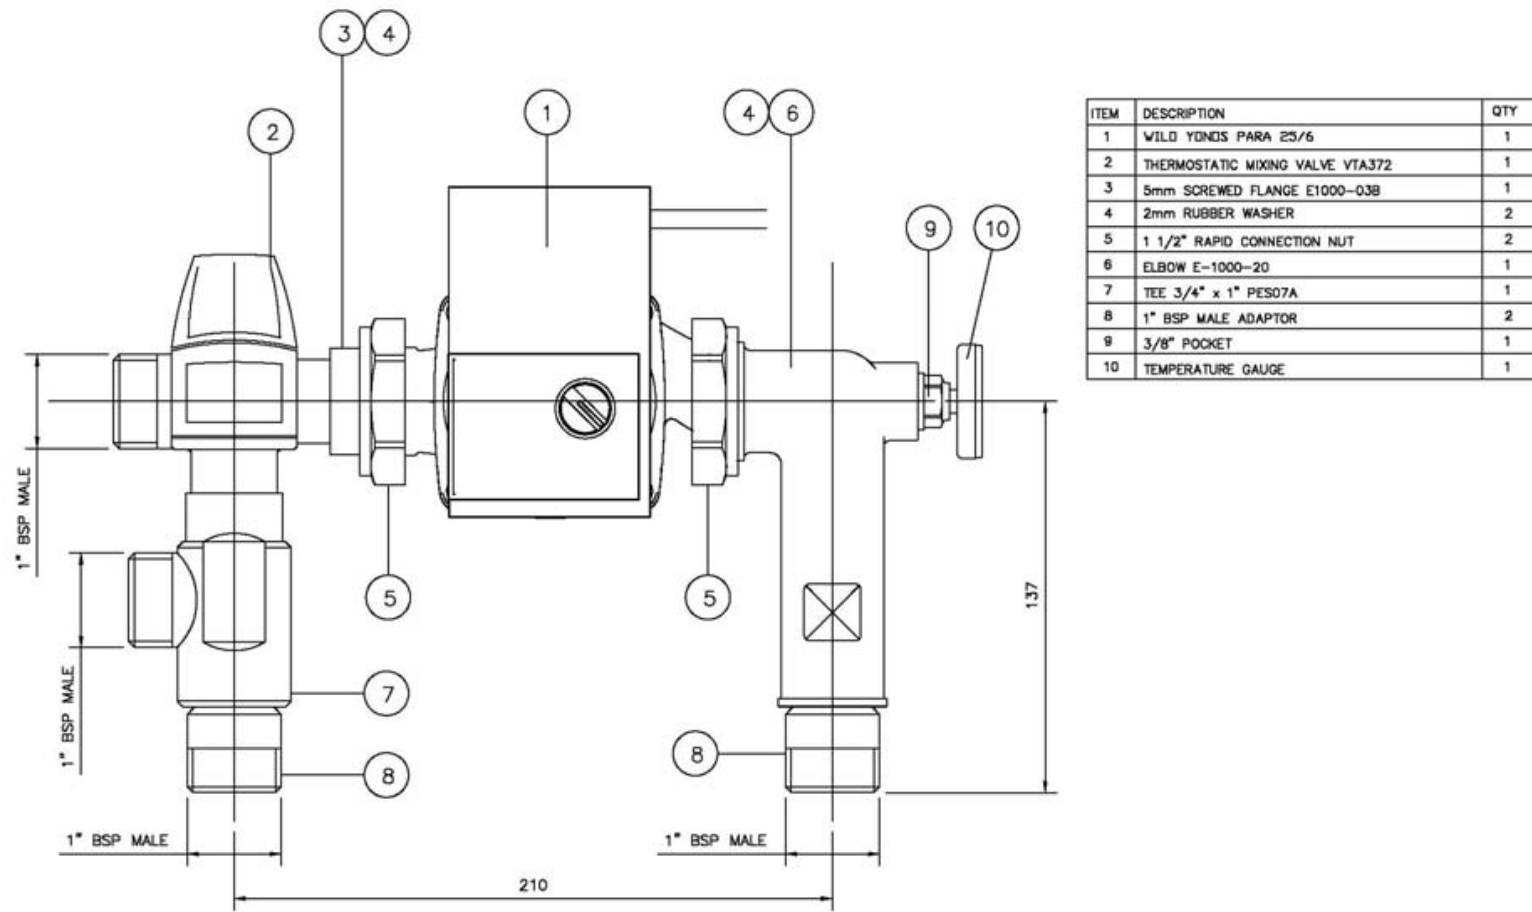

Fig.1 Overall Connections and Dimensions
5.5 The control group can be attached to the manifold either before or after the manifold is secured to the wall. Using the dimensions shown in Figs. 1, ensure that there is sufficient space for installation and maintenance at the intended position for the control group.